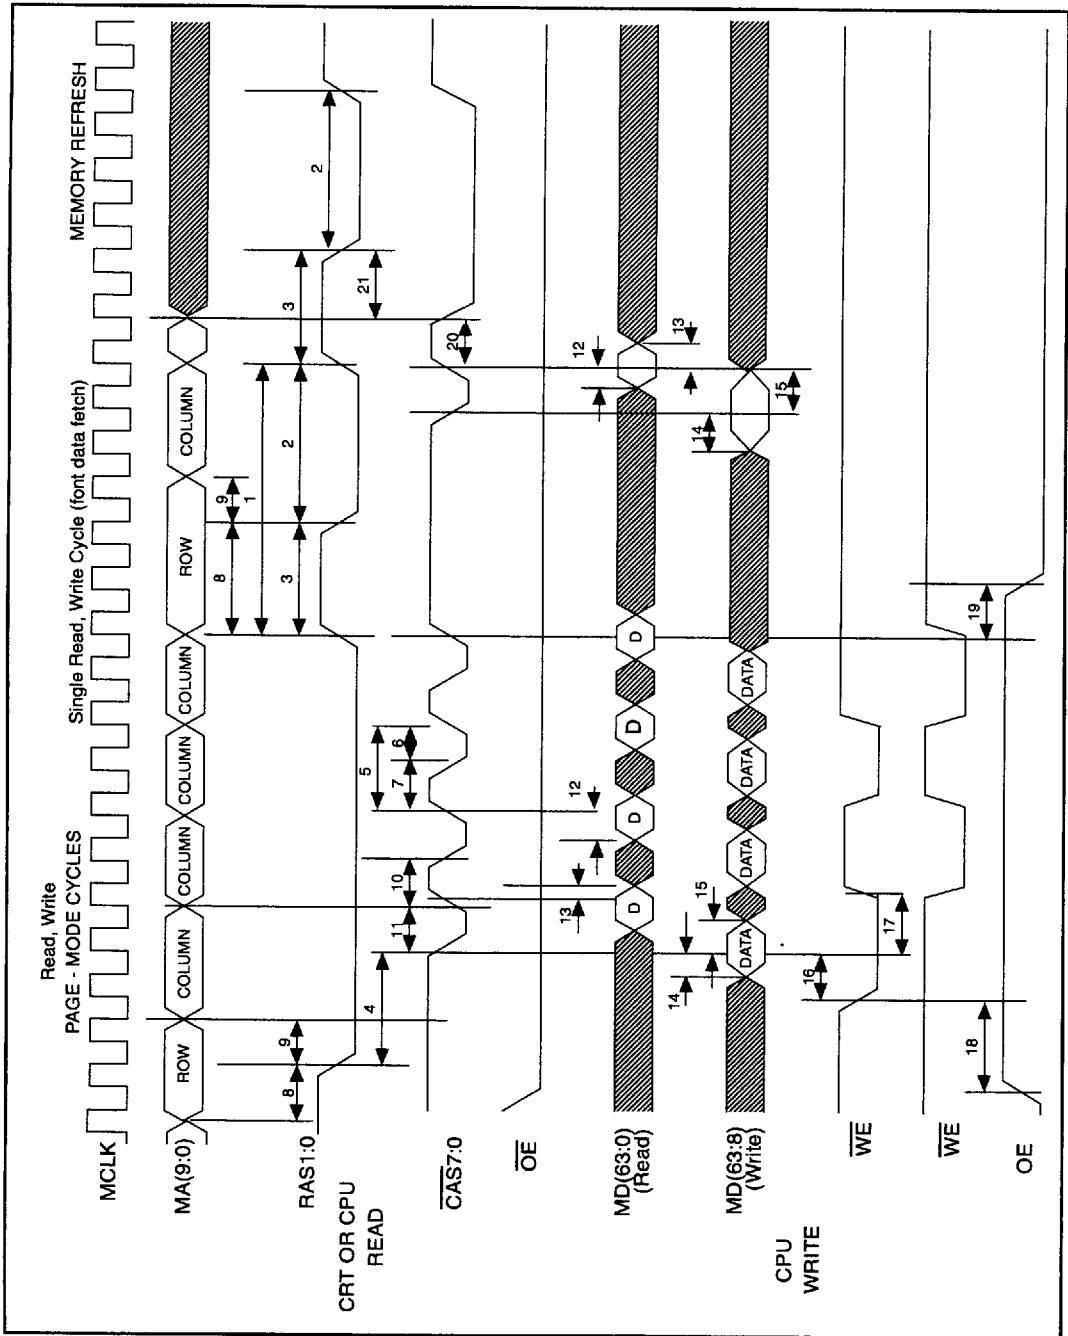

FIGURE 30-6. DRAM TIMING
- (4) Numbers the first column correspond to numbers on the timing diagram Figure 30-6.
- (5) Memory write uses fast page early write, while keeping $\overline{\text{OE}}$ equal to 1.